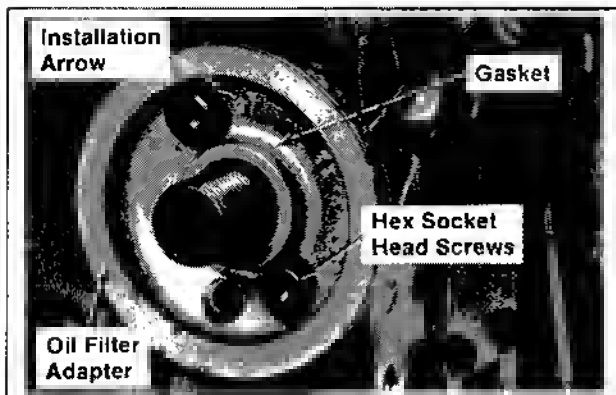

Figure 11-25. Installing Oil Filter Adapter.
1. Install the gasket, oil filter adapter, and hex. socket head screws. Make sure the arrow on filter adapter is pointing to top of crankcase. Refer to Figure 11-25.